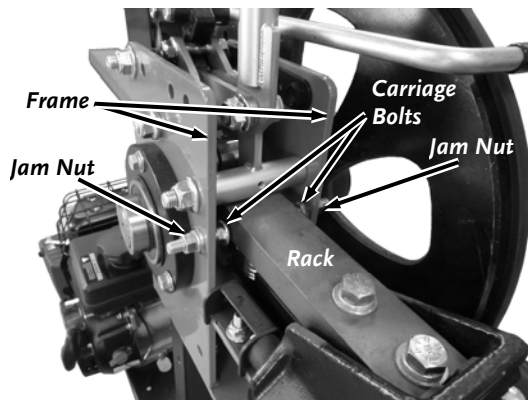

Figure 42
6. Loosen the Jam Nuts with a 9/16" Wrench and turn the Carriage Bolts with a 10mm Wrench until they touch the Rack (**Figure 42**).